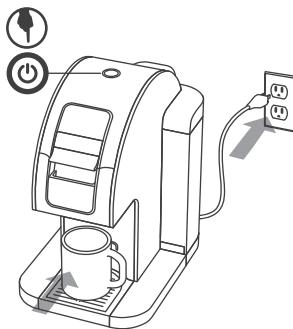

Fig. 3
3. Place a large mug or cup (12 oz minimum) on the Drip Tray. Plug the brewer into a 3 prong-grounded outlet. (Fig. 3)
4. Press the Power Button on top of the brewer. The blue Power Light will illuminate. (Fig. 3)